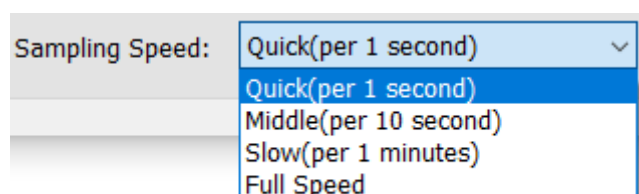

**Figure 3-12 Power Monitor Section**
- **Module Input Power / FPGA Core Power:** It displays the real-time Comet A65 SoM module input and FPGA Core Power voltage and consumption current on the Comet A65 SOM Evaluation Kit, as shown in **Figure 3-12**.